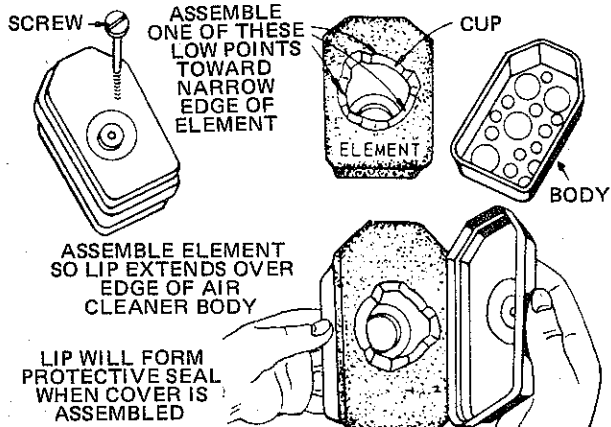

Figure 14
- Take air cleaner apart and clean. (Figure 14).